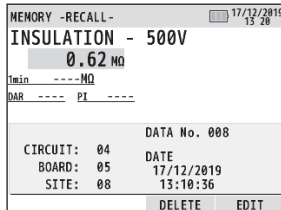

Fig.16-5
- (3) The selected data will be displayed. (Fig. 16-5)
Press F3 switch in the state as Fig. 16-5 shows to delete data.